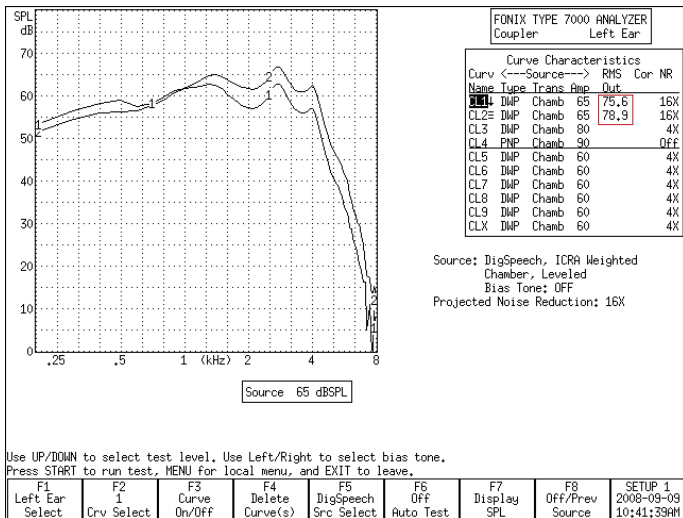

Figure 4: The FM offset for this test is $78.9 - 75.6 = +3.3$. The FM gain level needs to be reduced by about 3 dB.
21. Look at the Curve Characteristics box and mentally subtract the RMS OUT of Crv 1 from the RMS OUT of Crv 2. This calculated number is the FM Offset. See Figure 4.